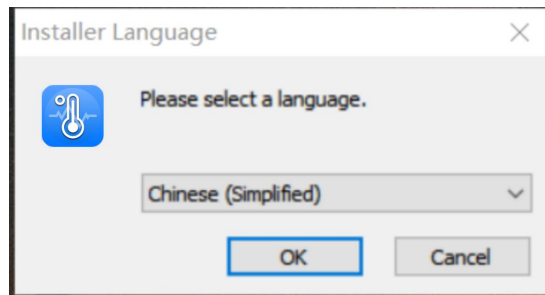

Figure 2-1 Selecting Language
1. Double-click or right-click the installation program of .exe to enter the language selection interface, as shown in Figure 2-1.